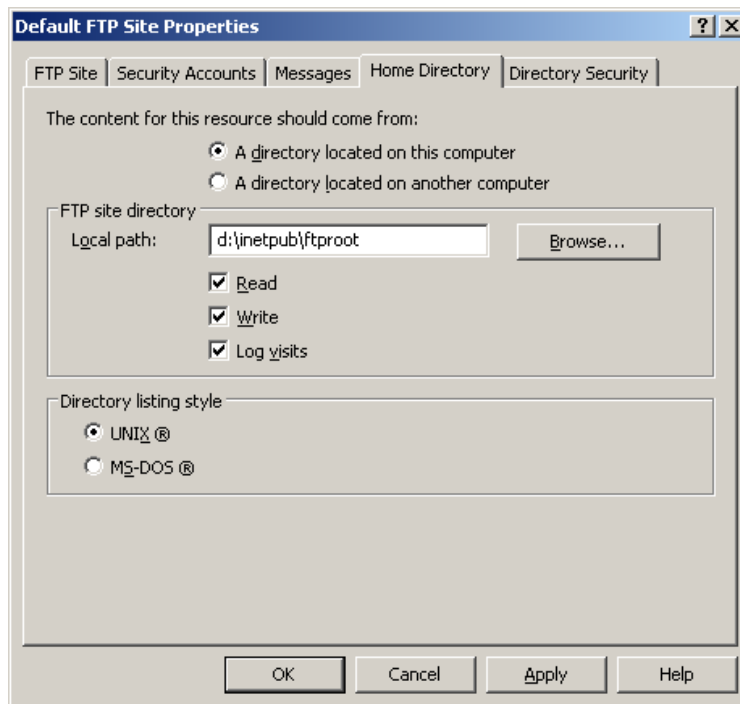

Figure 15 "Home Directory" Tab
- Click the “Home Directory” tab and enter the home directory into the “Local path” field (for example, drive c, e or d:\InetPub\ftproot), see Figure 15. In order to write a backup file, the configured FTP user must be granted the write permissions on FTP server. Click to check mark the boxes “Read” and “Write” (if they are not already selected). Click “OK” and then the “Apply” button to confirm the settings.